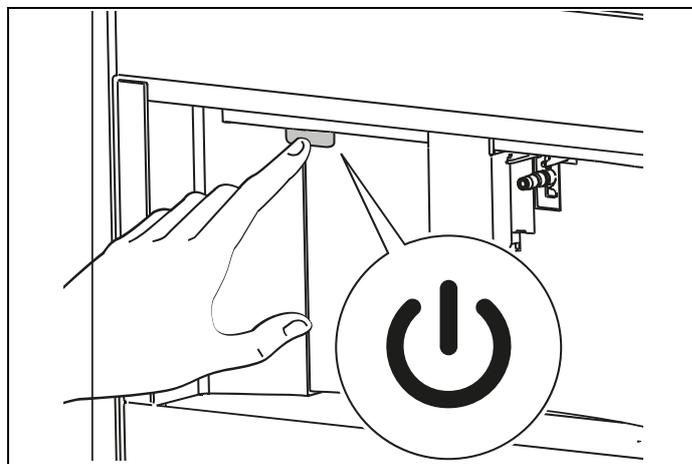

Fig. 23
- To switch the appliance on, press the button  (**A7-Fig. 23**): message **Heating up Please wait**, is shown on the display.
- To turn the appliance off, press the button  **(A7-Fig. 23)**.
- 1) First turn the appliance off by pressing the button  **(A7-Fig. 23)**;
Use this function to supply hot water from the coffee spouts **(A13)** to clean and heat the appliance's internal circuit. Place a container with a minimum capacity of 100 ml under the coffee and hot water spouts (Fig. 23).